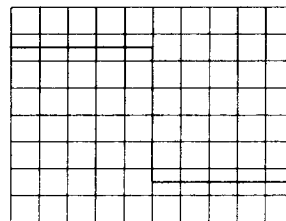

Fig. 16. Calibration
3. The displayed square wave when properly centered should be 5 divisions high and 10 divisions long.(5 division positive, 5 divisions negative) (see Fig. 16)